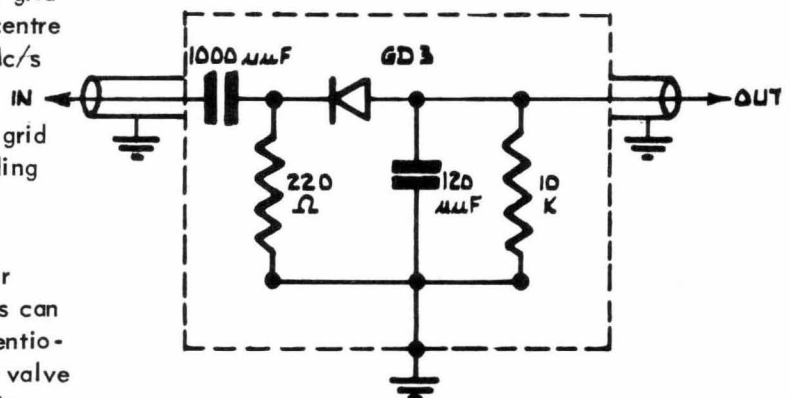

Fig. 14.
6. Connect the oscilloscope, through the probe circuit shown in Fig. 14, between pin 7 and ground of V3.
2. Connect the oscilloscope to the plate test point of the turret unit via a low impedance crystal detector probe Fig. 14.